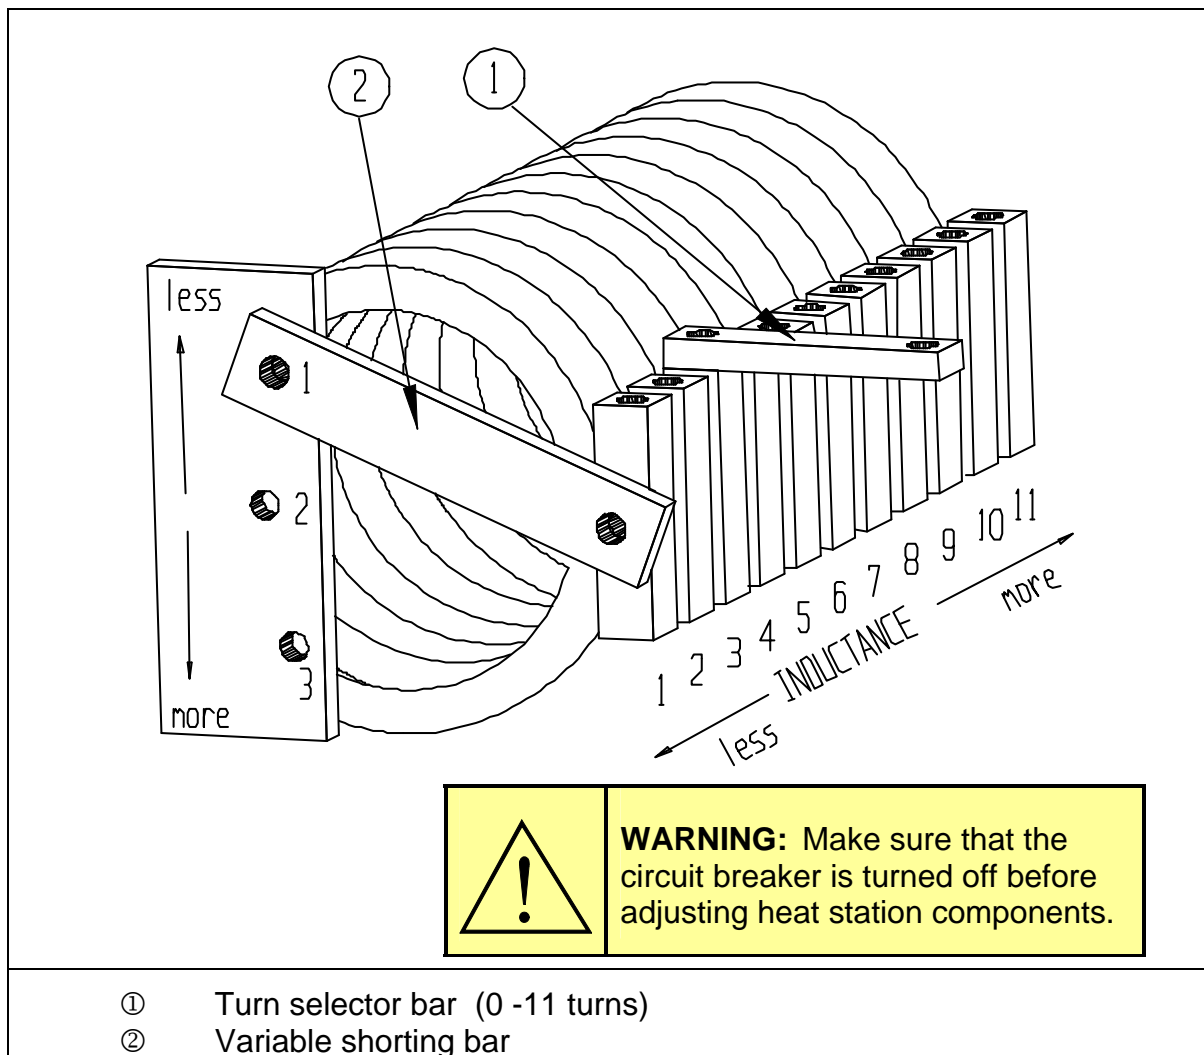

Figure 4: Adjusting the Series Inductor
The turn selector bar is identified by ① in Figure 4 on page 16. The near position selects zero turns and the far position eleven turns, as indicated in Figure 4 on page 16. Tighten the bar into position using the mounting screws.